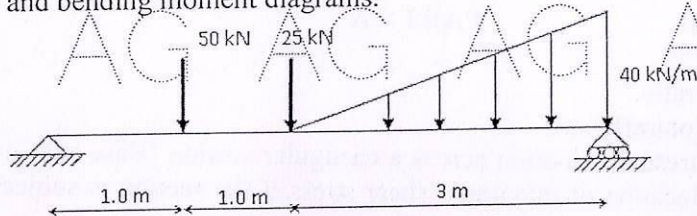

Figure: 3
5. A simply supported beam is subjected to the loading as shown in Figure 3. Draw the shear force and bending moment diagrams. [10]